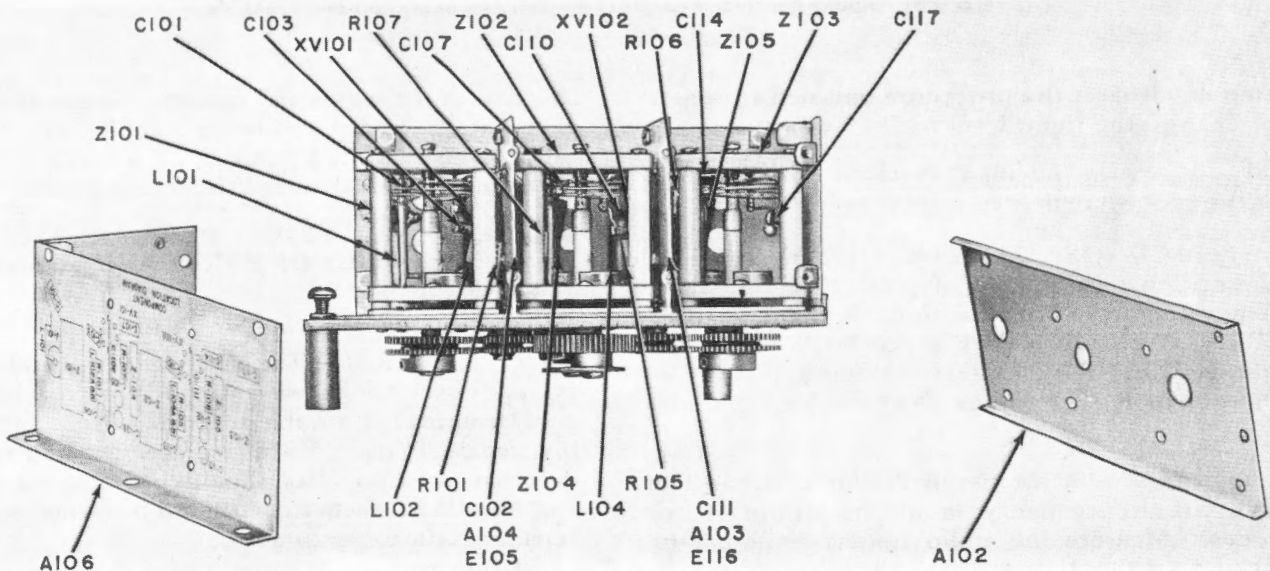

Figure 6-27. Radio Receiver R-278B/GR, R-F Amplifier, Underside View
Figures 6-27 and 6-28 show component call-outs. Figure 6-82 shows the schematic diagram and figure 6-86 is the practical wiring diagram.
Step 7. Unsolder capacitor C117 (figure 6-27) from pin 1 of V401 (figure 6-7).
Step 2. Position the contact arm of each tuner (Z101, Z102, and Z103, figure 6-27) to line up with the center rivet of the ring inductor (360.5-mc position).